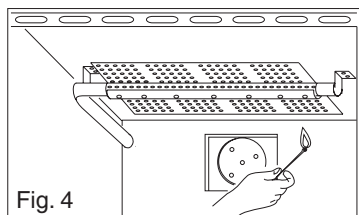
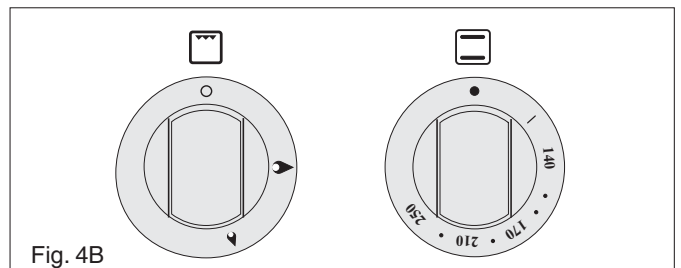

Fig. 4
Fig. 4B
Open the oven door and turn the oven knob to the grill position  see fig. 1 (or to the max. position  for appliances with grill knob separated from the oven thermostat knob, see figure 4B). Bring a light match near the holes of the burner placed on the oven upper part (fig.4).
Turn the knob to the grill position  see fig. 1 (or to the max. position  see fig. 4B), then press button  (fig. 1A) to ignite the burner.
In case there is no electric current, the burner can also be lighted using a match (fig.4).
To ignite the burner, press the knob and turn it to the grill position  see fig. 1 (or to the max. position  see fig. 4B). Keep it pressed to start up the automatic ignition of the burner.
**Grill knob separated from the oven thermostat knob (fig. 4B).**